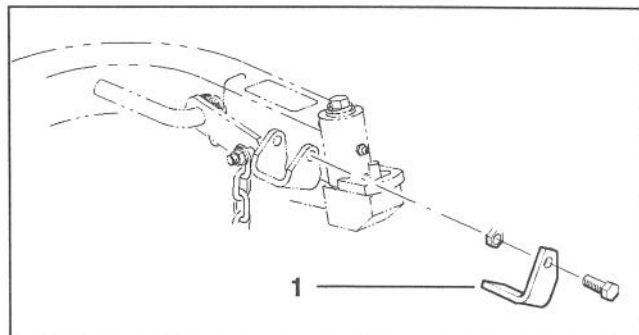

Figure 9
- On left rear lift arm only, mount a cutting unit stop with a 3/8-16 x 1" capscrew and locknut. Position stop as shown in fig. 9.